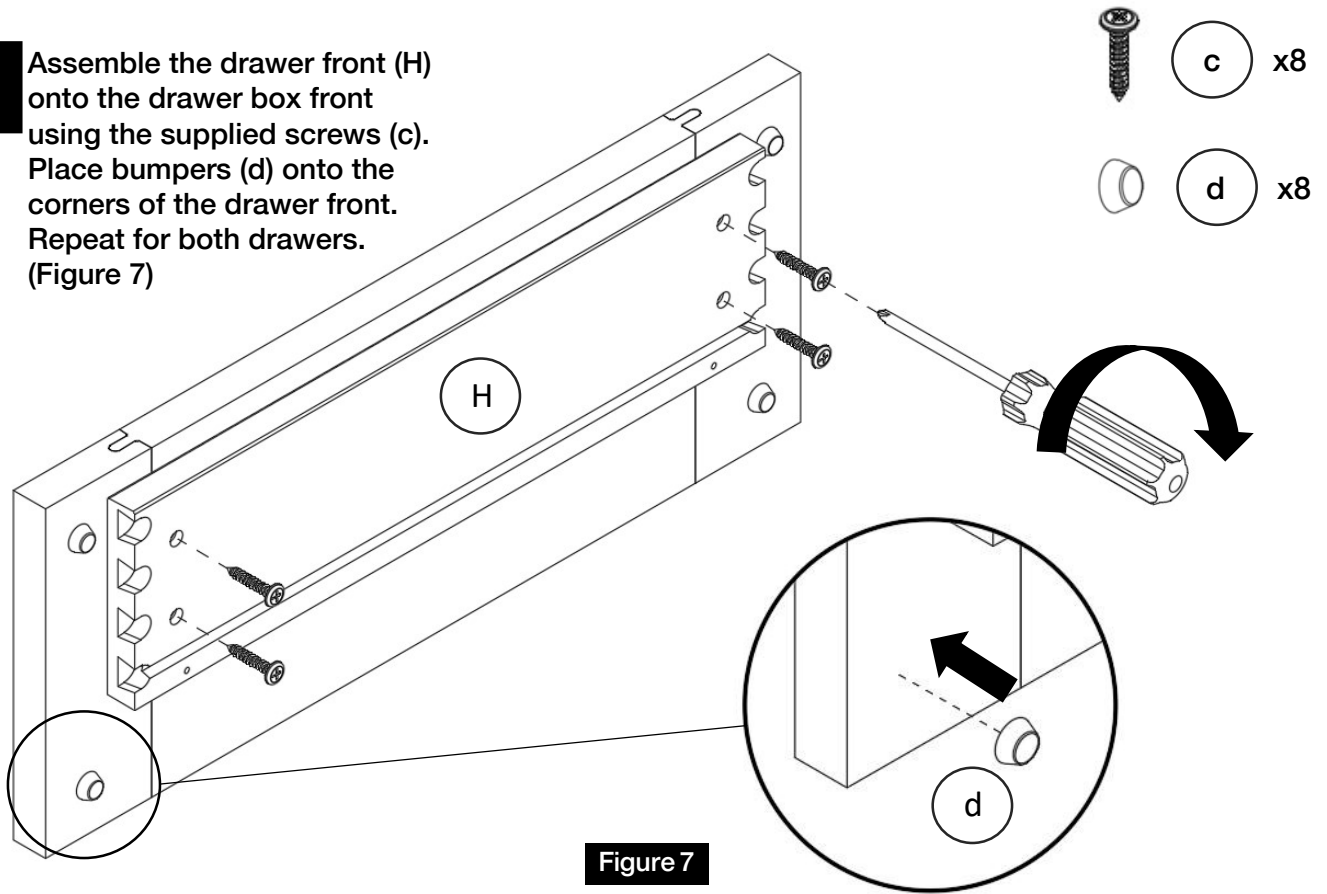

Figure 7
Assemble the drawer front (H) onto the drawer box front using the supplied screws (c). Place bumpers (d) onto the corners of the drawer front. Repeat for both drawers. (Figure 7)